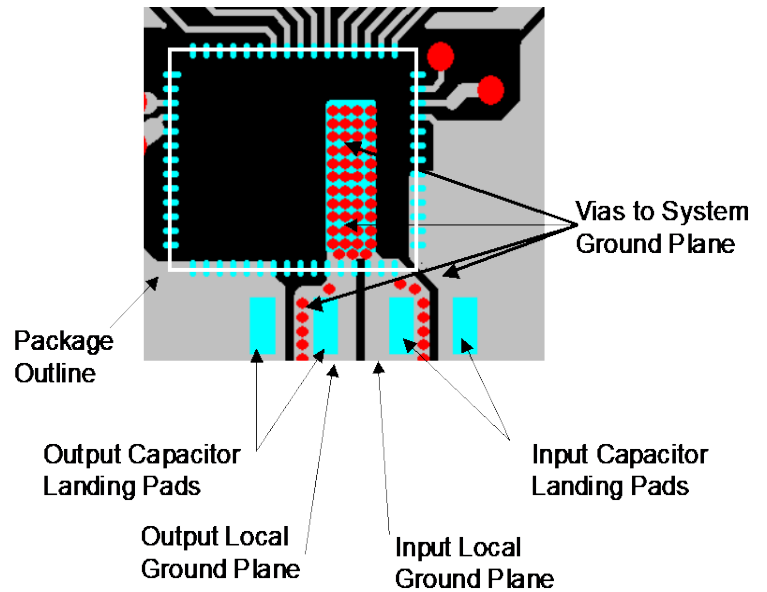

Figure 9. Use of vias connecting local and system ground.
**Recommendation 3:** Multiple small (0.25mm) vias should be used to connect ground terminal of the Input capacitor and the output capacitor to the system ground plane as shown in figure 9.
Figure 9 demonstrates the recommended PCB footprint for the EN5396QI. Figure 11 shows the shape and location of the exposed metal pads as well as the mechanical dimension of the large thermal pad and the pins.